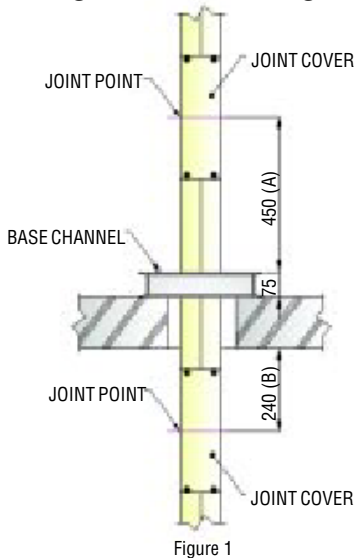
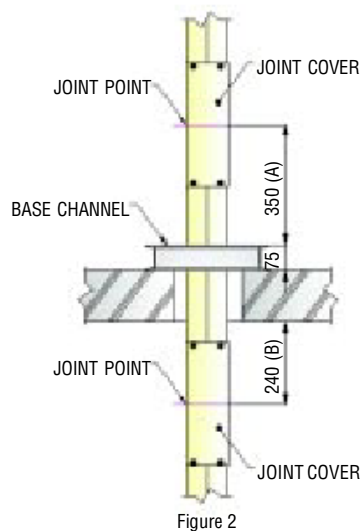

Figure 1
Figure 2
**4) Busduct jointing point and the floor/ceiling surface through floor installation as per Figure 1 and ceiling surface as per Figure 2.**